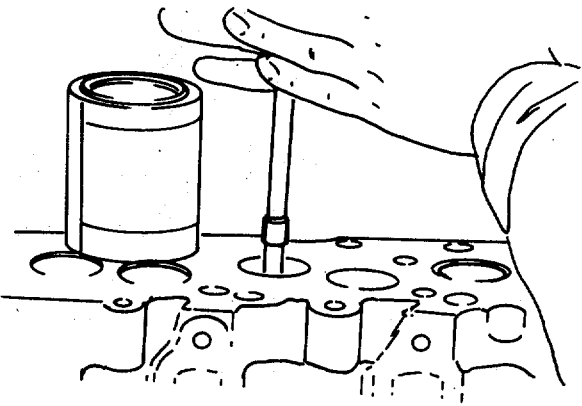

FIGURE 4-20. Apply Lapping Compound.
(8) Apply a light coat of valve lapping compound to each valve and lap each valve to its companion seat. (FIGURE 4-20)